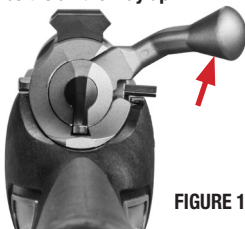

FIGURE 13
- Open the bolt (FIGURE 13) and inspect the bore for obstructions (and follow the cleaning instructions on page 21 of this manual if necessary).